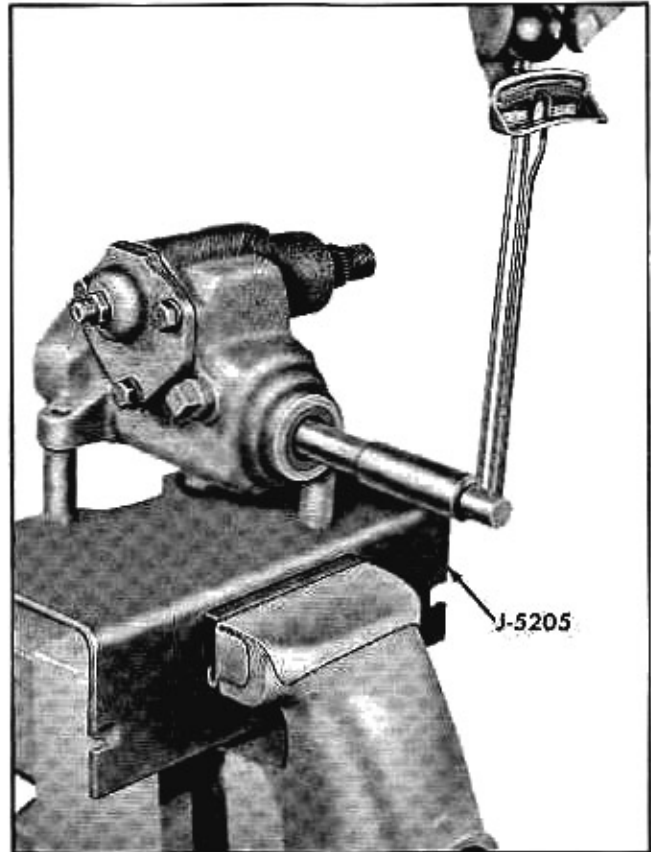

Fig. 9-38 Adjusting Worm Gear Through High Point
b. Tighten pitman shaft adjusting screw as necessary to obtain a reading of 1 to 2 lb. ft. torque when the worm gear is turned through the high point (Fig. 9-38).